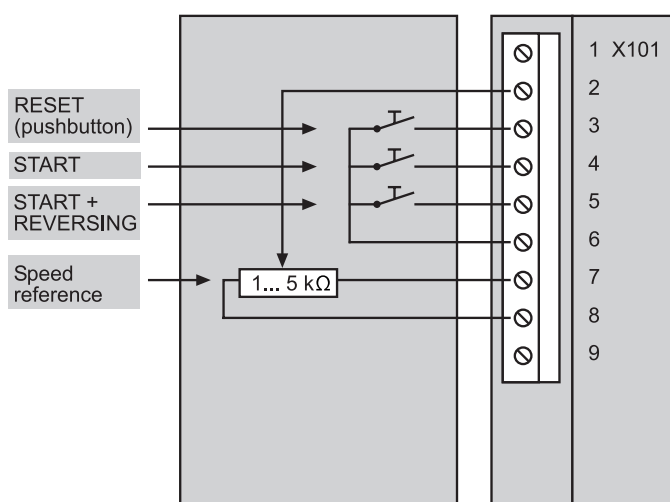

Fig. 2
Figure 2 shows the factory settings of terminal block X101 for starting the VEM Compact Drives without any additionally accessories for local or remote control.
- **Connect terminal 2, 7 and 8 to the potentiometer** (see fig. 2).
- Use internal reference 10 V DC and a potentiometer (see fig. 2);
| ON | OFF | ON | Apply reset signal according to Fig. 2 |